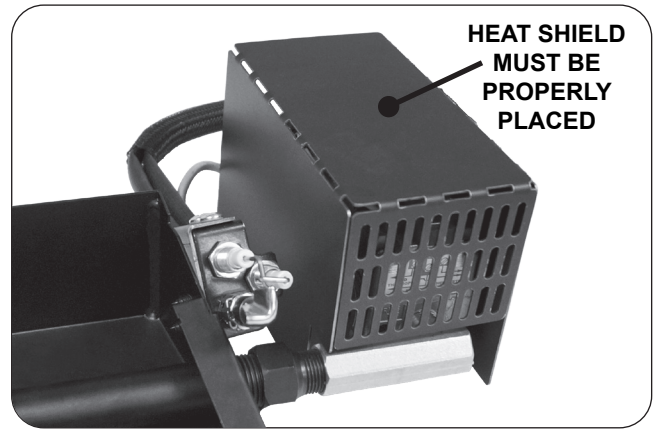

Fig. 9-1 Place heat shield
Cover the valve with the heat shield as shown in Fig. 9-1. It should rest flat above the valve.
**Important:** Ensure the wire bundles do not interfere with heat shield placement (see Fig. 9-1 and 9-2).